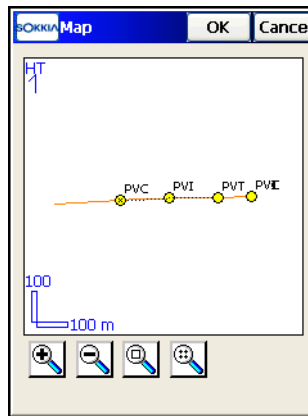

Figure 7-18. Vertical Alignment Map
- Double-tap in the plot area to open the greater Map for the vertical alignment. The *Map* screen displays. For vertical curves, the map displays the *PVC* point where the vertical curve begins, the *PVI* point of intersection of two tangents, and the *PVT* point where the curve ends (Figure 7-18).